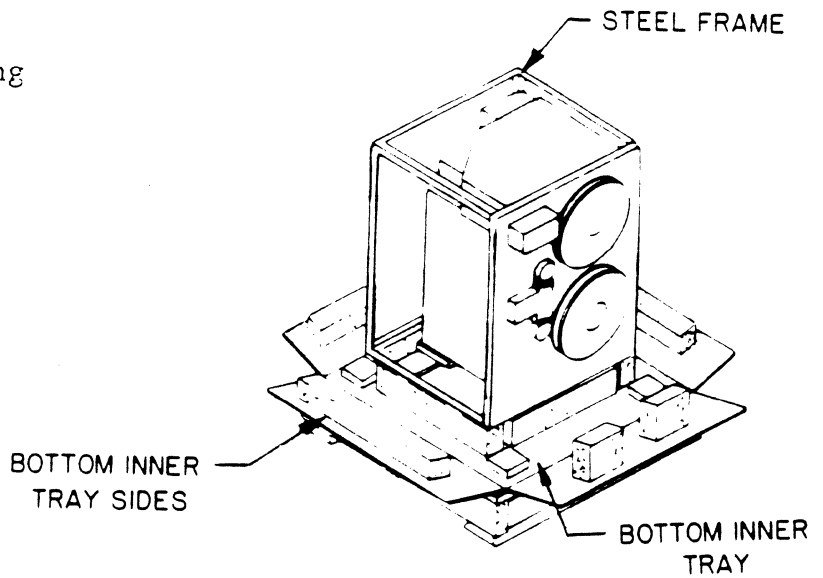

Figure 3-2. Unpacking STU
4. Cut reinforcing tape at (4) corners of bottom inner tray and bend sides of inner tray out (refer to figure 3-2).